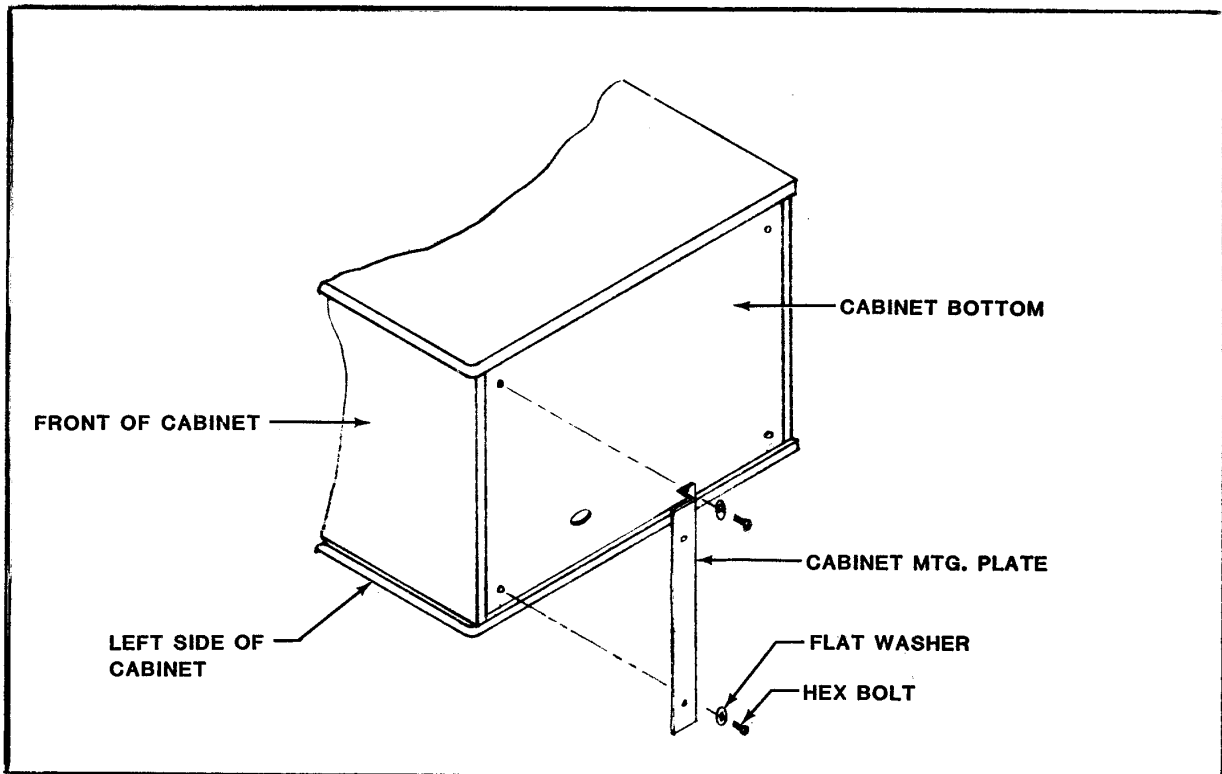

**FIGURE 1**
1. For SAC 1A, SAC 1B, & SAC-MAN game cabinets: Remove rear door and lay cabinet on its side. Drill 2" hole in bottom of cabinet as shown in Figure 1.